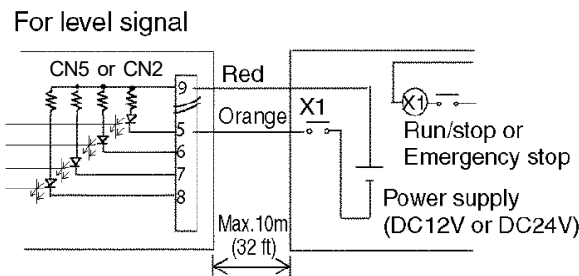

Figure 1. CN5 Wiring Diagram for the Centralized Controllers AE-200A, AE-50A, and EW-50A
- External input/output with CN5 on Centralized Controllers AE-200A, AE-50A, & EW-50A. Figure 1 displays the wiring diagram for both the CN5 and CN2.